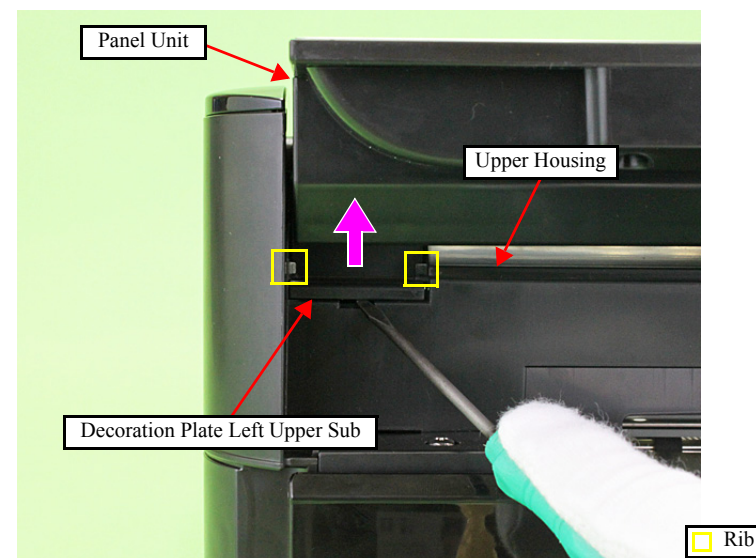

Figure 9-5. Removing the Decoration Plate Left Upper Sub (2)
3. Insert the flathead screwdriver into the gap between the Decoration Plate Left Upper Sub and Upper Housing as shown in Fig. 9-5, and lift the Decoration Plate Left Upper Sub to release the ribs (x2) of the Upper Housing.